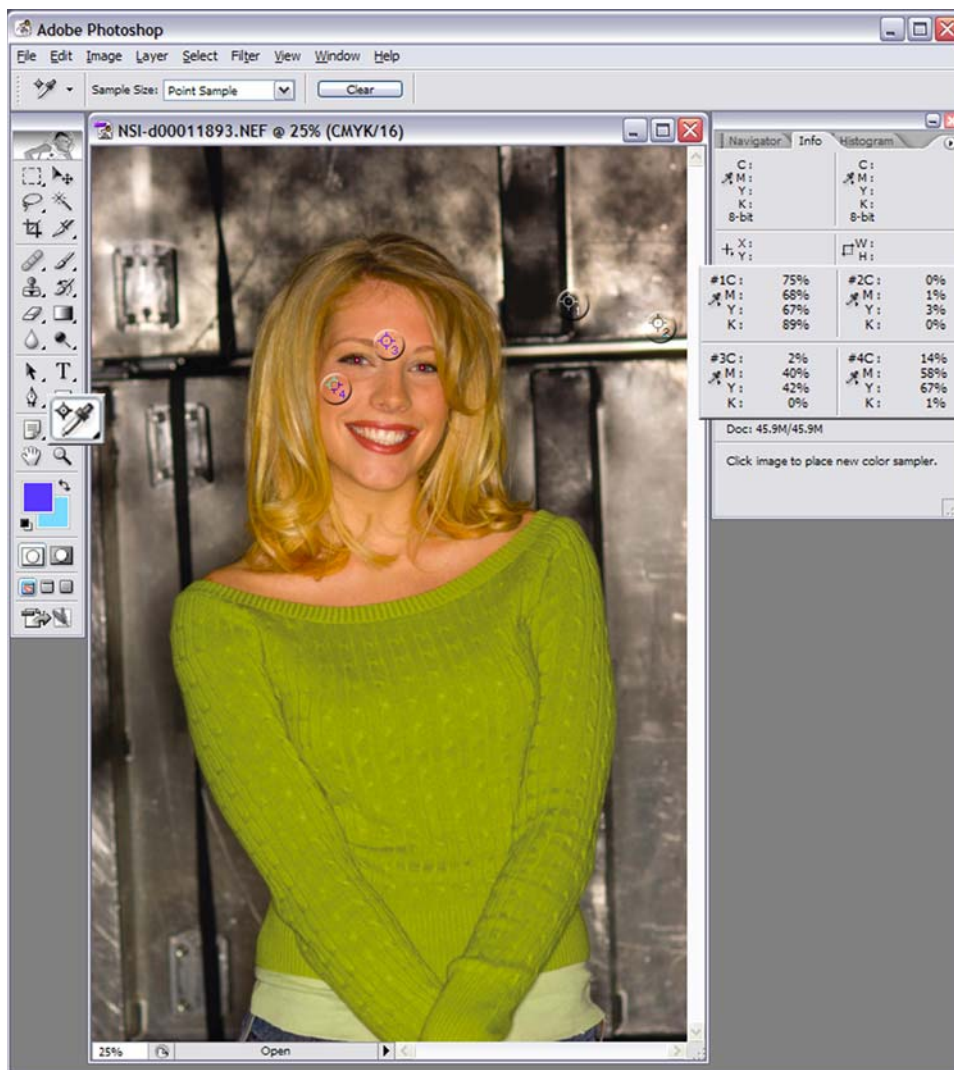

FIGURE 1-2 Info Palette, Color Sampler Tool, and 4 color sample points
3. The CMYK colorspace that we're about to switch to is smaller than the Adobe RGB (1998) colorspace that we've been working in. Therefore converting to CMYK often causes colors in your image to become more muted. It doesn't happen 100% of the time, but it's definitely something to watch out for. We recommend increasing the color saturation between 5% - 15% to compensate for this muting effect. For our test image (Figure 1-2), we find an 8% saturation boost to be about right.